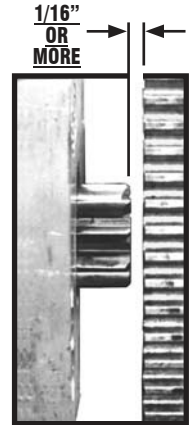

FIGURE 1
- [2] **CHECK PINION CLEARANCE.** There should be 1/16" minimum from the back side of ring gear to the front edge of the teeth on the starter pinion. Check in at least three locations on the ring gear (see Figure 1). If not in spec, verify that the ring gear is properly mounted.